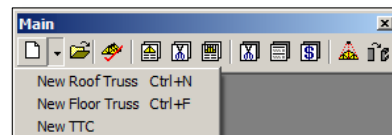

Figure 94: The *New* icon drop-down list.
2. Click on the drop-down arrow next to the *New* icon on the *Main* toolbar and select *New Roof Truss*. (See Figure 94 at right.)